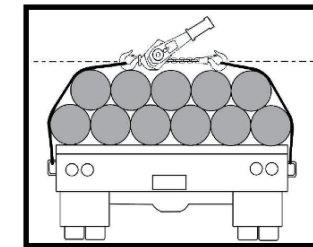

FIG 10
- When using a wire rope sling, the puller must be applied along a straight line parallel to the surface on which it is resting (FIG 10).